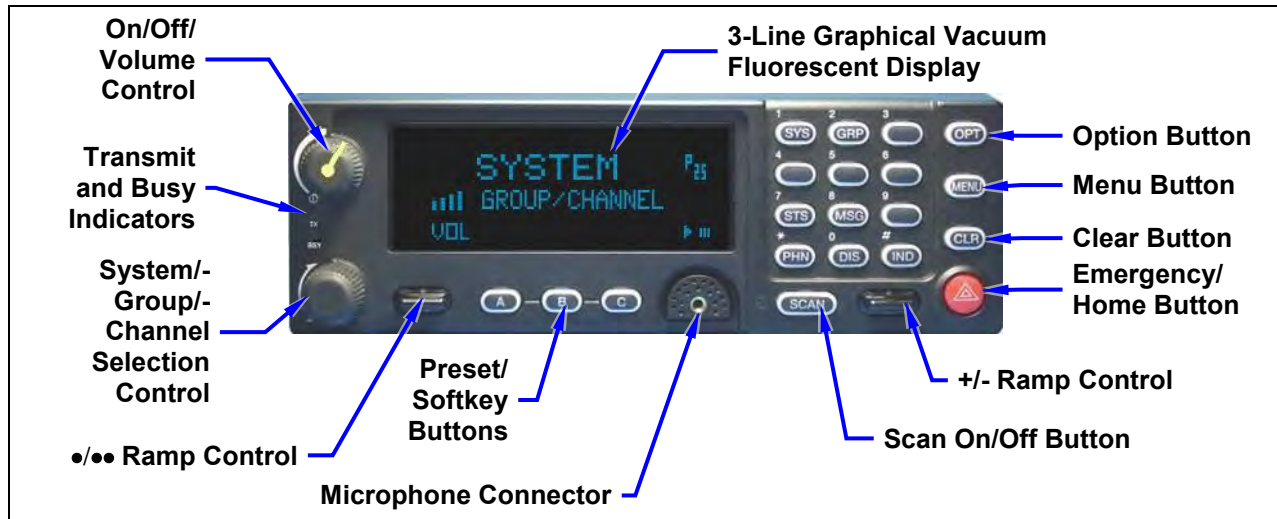
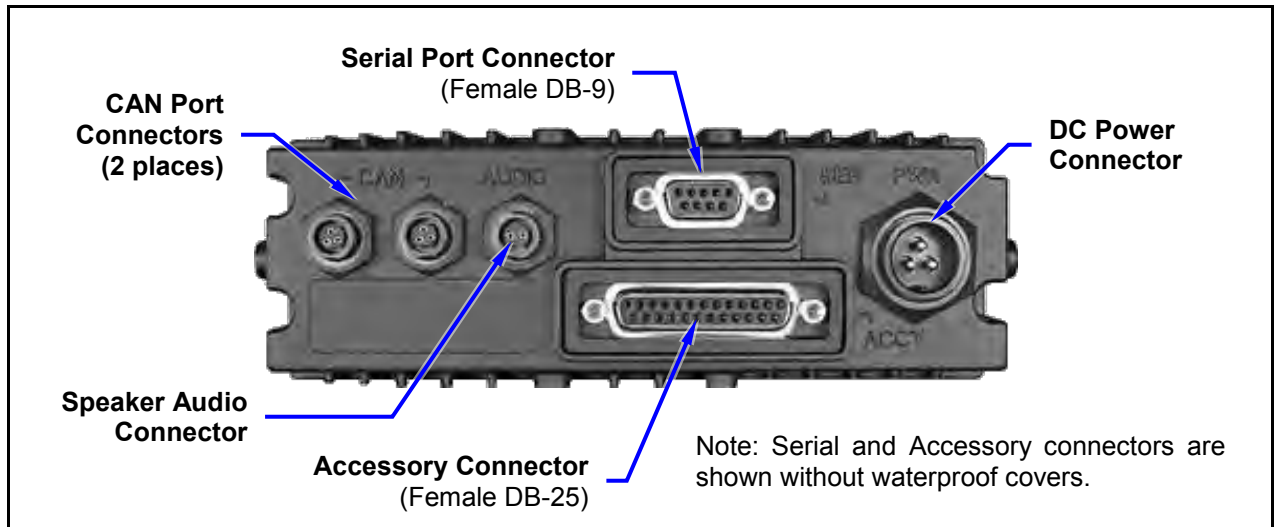

Figure 10-4: CH-721 System Model Control Head Front Panel
Figure 10-5: CH-721 Control Head Rear Panel
The remote-mount Unity XG-100M mobile radio must be connected to a control head to provide the operator-to-radio interface. Two (2) different control heads are available — the CH-100 control head and the CH-721 System model control head. See Figure 10-1 through Figure 10-4 respectively. A control head is interfaced to the radio via a CAN cable. Each control head is powered and fused by an individual DC power cable (i.e., the control head is powered separately from the radio).
The CH-721 System model control head, shown in Figure 10-4, features a large easy-to-read 3-line graphical vacuum fluorescent display, an on/off/volume control, menu controls and buttons, trunking mode buttons, an emergency/home button, a scan on/off button, and three (3) preset buttons. The head features a 12-key keypad to allow advanced operations without the need of a DTMF-capable microphone. Other front panel components include a microphone connector and two LED-type indicators. One LED indicator is the busy indicator that lights when the radio is receiving a call and one is the transmitter-enabled indicator that lights when the radio is transmitting. All buttons are backlit for viewing in low-light conditions. Figure 10-5 shows the head's rear panel.
An MRU and the control head have two CAN ports that enable supporting “daisy-chaining” multiple control heads or other CAN devices. Figure 6-2 on page 31 shows the radio’s two CAN port connectors, which are located near the center of the radio’s rear panel. Figure 10-2 (CH-100) on page 56 and Figure 10-5 (Ch-721) on page 58 show the two CAN port connectors on the control head’s rear panel.